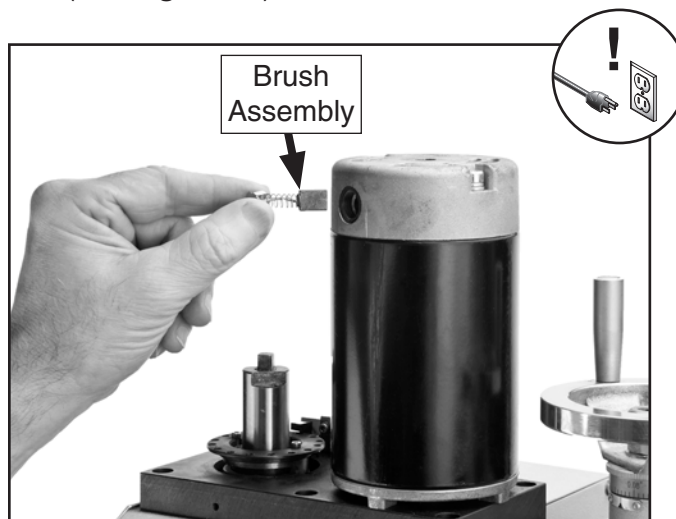

Figure 48. Inserting new motor brush.
4. Remove old brush assembly. If brush is worn down to less than $\frac{1}{4}$ ", then replace it with a new one. Otherwise re-install old brush (see **Figure 48**).